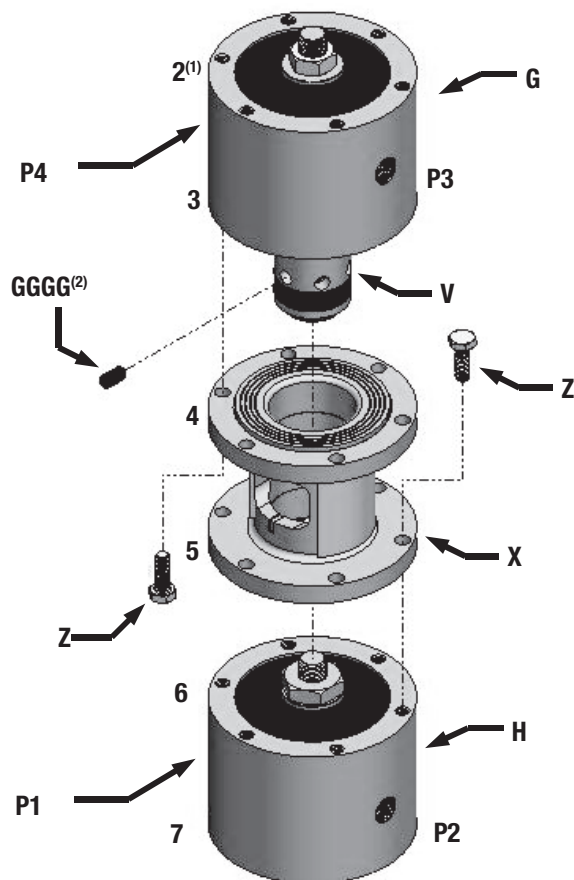

Figure 16
(1) Looking closely at the Bodies (G and H), and the Sensitivity Spacer (X), notice the stamped numbers 2-7. Make sure these numbers are aligned as shown in Figure 16, before the assembly is fastened together.